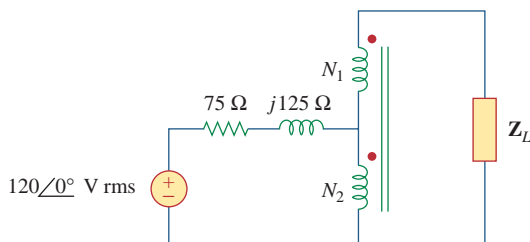

Figure 13.132
***13.69** In the circuit of Fig. 13.132, \mathbf{Z}_L is adjusted until maximum average power is delivered to \mathbf{Z}_L . Find \mathbf{Z}_L and the maximum average power transferred to it. Take $N_1 = 600$ turns and $N_2 = 200$ turns.